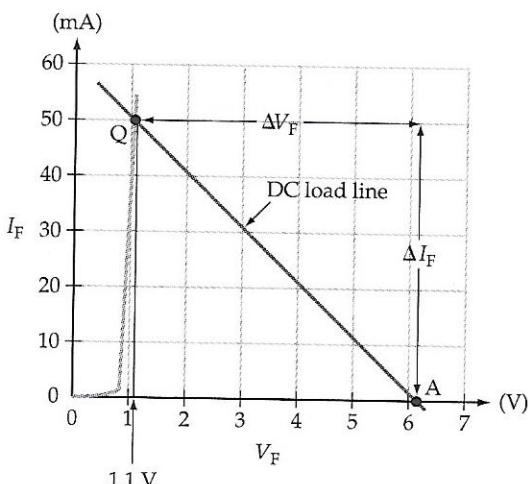

Figure 2-15 Determination of the required supply voltage for a diode-resistor circuit with a given resistor and a specified load current.
Plot point Q on the diode characteristic in Fig. 2-15 at
$$\Delta I_F = 50 \text{ mA} \quad (\text{see Fig. 2-15})$$
$$\begin{aligned} \Delta V_F &= I_F R_1 = 50 \text{ mA} \times 100 \Omega \quad (\text{see Fig. 2-15}) \\ &= 5 \text{ V} \end{aligned}$$
Point A may now be plotted (on Fig. 2-15) at $I_F = 0$ and $E = 6.1 \text{ V}$, and the new dc load line may be drawn through points A and Q.
- 2-4.1** A diode with the characteristics in Fig. 2-15 is connected in series with a 3 V supply and a $100\ \Omega$ resistor. Draw the dc load line for the circuit, and determine the forward current level.
- 2-4.3** A diode with the characteristics in Fig. 2-15 is to have a 35 mA forward current when connected in series with a $70\ \Omega$ resistor. Determine the required supply voltage.